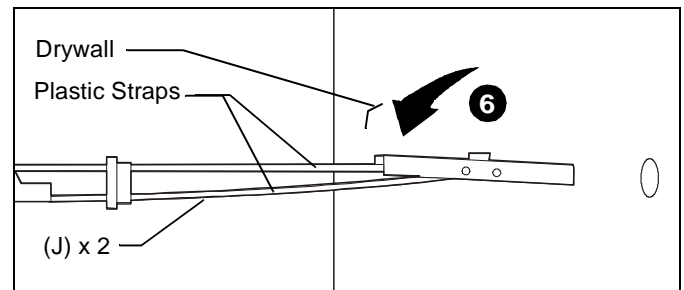

Figure 4
6. Hold metal channel on 10-24 (J) Snap-Toggle flat alongside plastic straps and slide channel through hole. (See Figure 4)